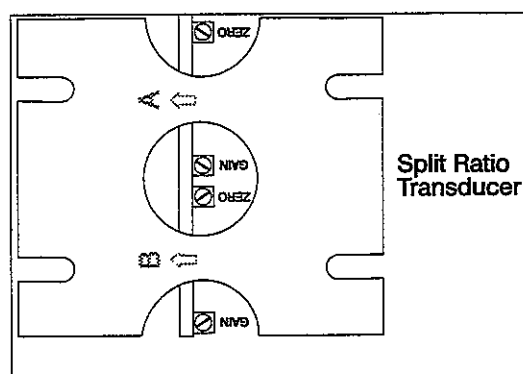

Figure 13 Split Ratio Transducer Adjustment Locations
10. Locate the appropriate ZERO potentiometer on the split ratio transducer (see Figure 13). Use a small flashlight to illuminate the access hole.
13. Check the split ratio (in the COLUMN status section). Return to the split ratio transducer and adjust the GAIN (see Figure 13) as you observe the split ratio display. Adjust the GAIN until the split ratio is 50.